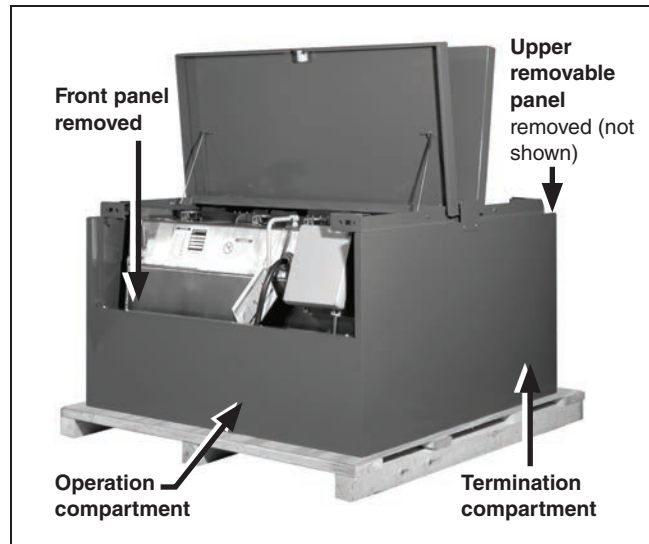

Figure 6. A pad-mounted Vista switchgear unit with the front and upper removable panels removed.
**STEP 4.** Remove the removable panel from the operation compartment and the upper removable panel from the termination compartment by loosening the fasteners securing the panels in place and lifting the panels upward. Set the panels aside in a safe, clean place. See Figure 6.